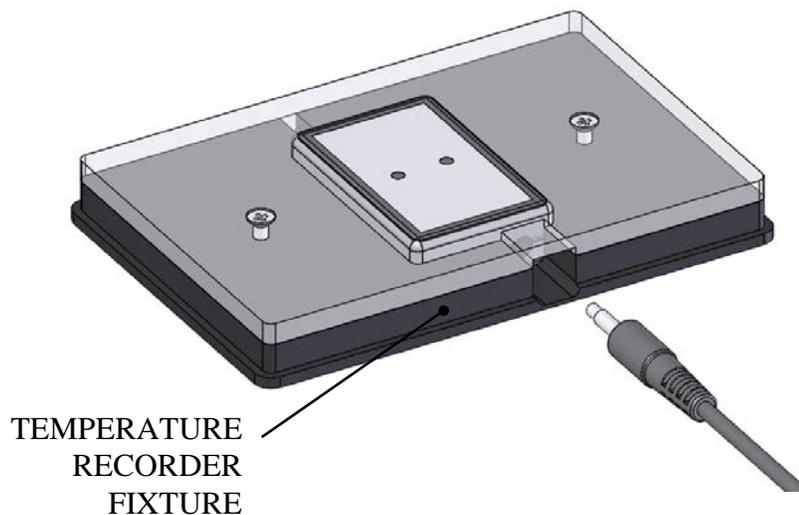

Figure 5-71: Connecting the Jack Plug of the Interface Cable
6. Connect the jack plug of the interface cable to the temperature recorder (Figure 5-71).